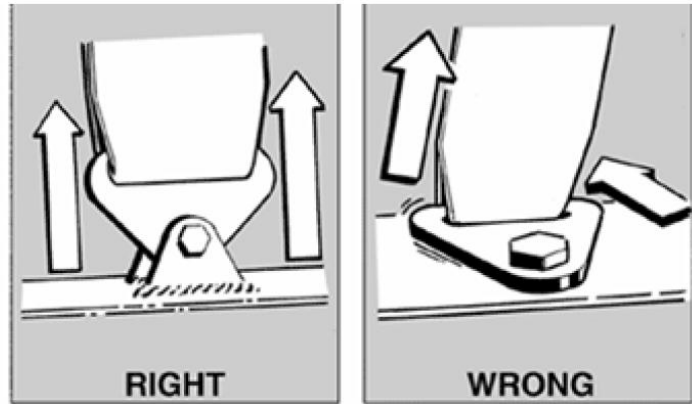

Figure 10
**Eye bolt lap belt connections are specifically prohibited.** The lap belts must freely pivot to fit drivers of differing statures correctly. The lap belt bracket must not be loaded in bending (see Fig.10 above).